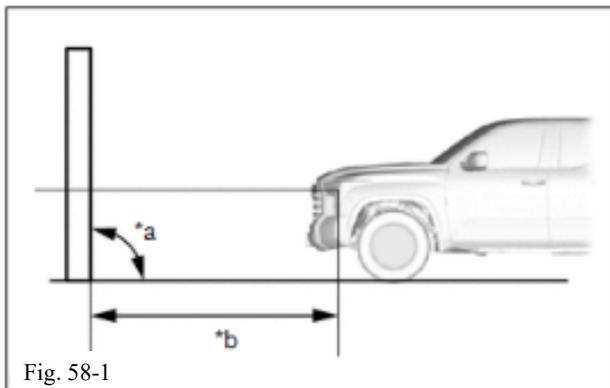

Fig. 58-1
- (1) Place the vehicle in a location that is dark enough to clearly observe the cutoff line. The cutoff line is a distinct line, below the light from the headlights can be observed and those that cannot be observed (Fig. 58-1).
- (2) Place the vehicle at a 90° angle to the wall.